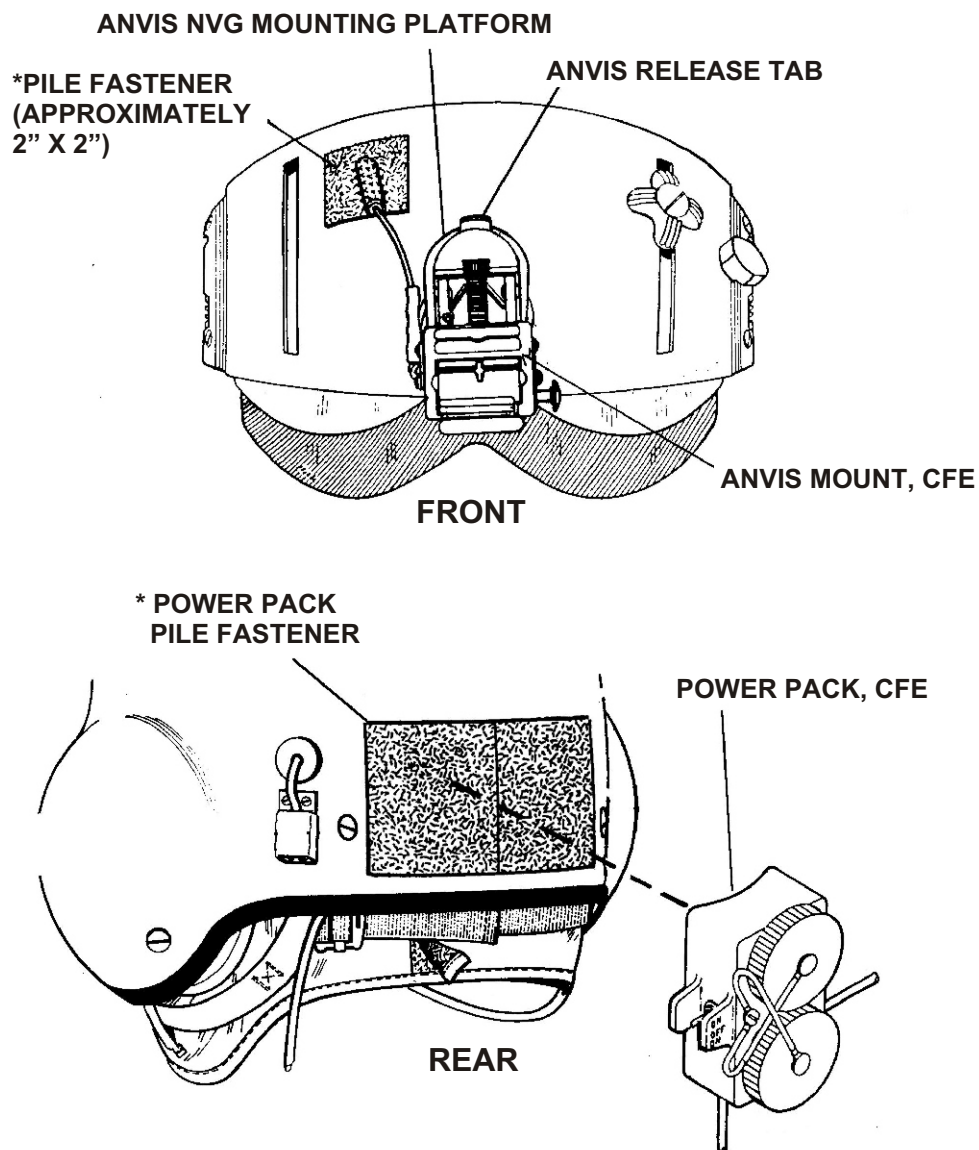

Figure 2-15. ANVIS Kit Installation (*P/N 90A7946-5)
6. Align the locating pins with the slots in the mounting platform on the helmet. Insert the pins into the slots and pull the mount down until it clicks into place as shown in Figure 2-15. Attach the hook fastener on the connector to the pile fastener (not provided) on visor the housing.
7. Attach pressure-sensitive pile fastener to the center rear of the helmet for the ANVIS battery pack as shown in Figure 2-15.